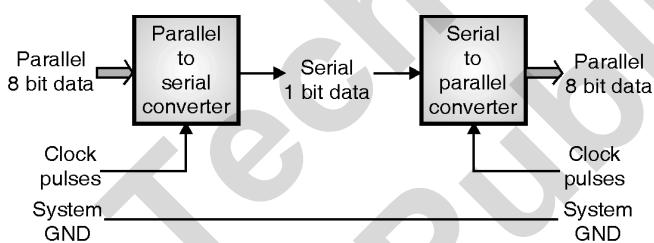

Fig. 11.11.3 : Serial I/O
- To transfer 8 bits of data, it will require 8 clock pulses. On the other side exactly opposite process is done. These serial 8 bits are accepted and converted to parallel form to get 8 bits of data. This process is shown in Fig. 11.11.3.